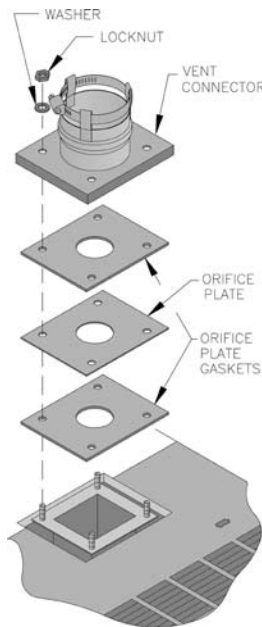

Figure 3: Vent Connector Installation
3. Assemble orifice plate gaskets, orifice plate, and vent connector. See Figure 3.